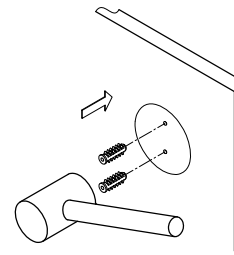

Fig. 4
- Step 3. Insert anchors into the holes with a hammer until flush with the wall (Fig 4).